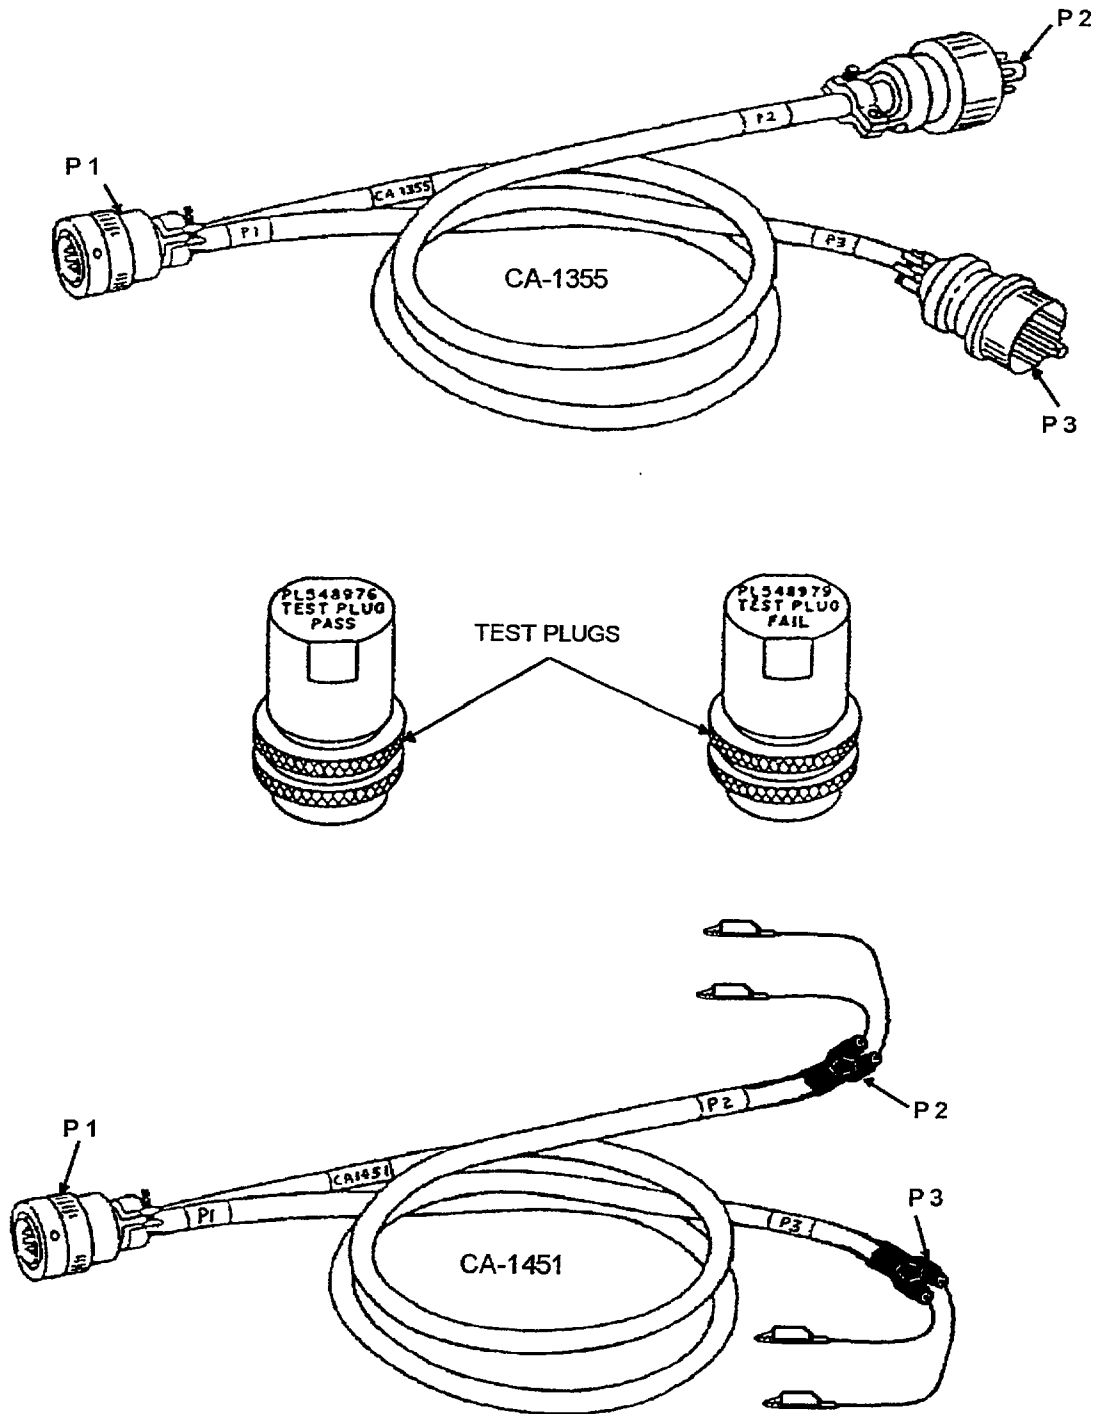

Figure D-4. Required Associated Test Equipment
- a. Retain Cable Assembly CA-1355 with batteries connected for this test set-up. Ensure that Cable Assembly CA-1354 has been returned to the storage compartment and remove the PASS Test Plug and the FAIL Test Plug (Figure D-4) for use in this procedure.